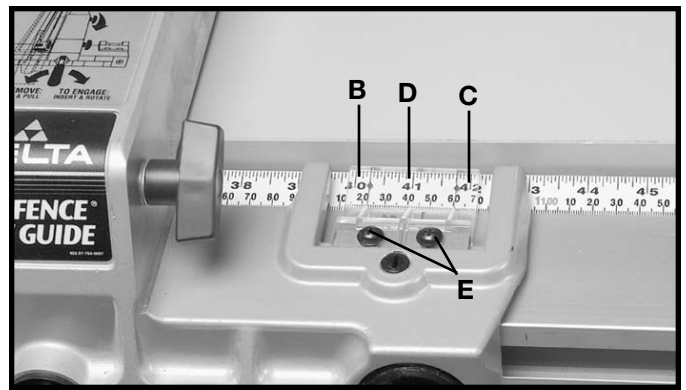

Fig. 76
5. The distance the fence is positioned away from the blade is indicated by the two witness lines (B) and (C) Fig. 76, located on the cursor (D). Witness line (B) indicates the distance the fence is away from the blade when the fence is in the horizontal position, and witness line (C) indicates the distance the fence is away from the blade when the fence is in the vertical position. If it is necessary to adjust cursor (D), make a test cut with the fence in either the vertical or horizontal position, measure the distance of the finished cut and move the cursor (D) by loosening the two screws (E) Fig. 76. After adjustment is completed tighten the two screws (E).